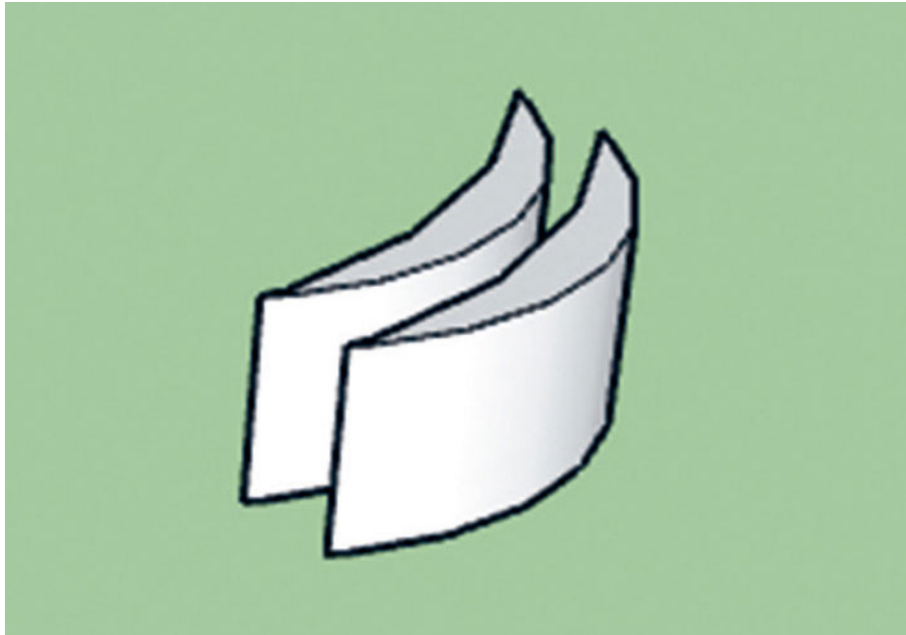

FIG. 5: *Copy the crescent shape and align to form the two walls of the holder.*
5. Make a copy of the wall by using the **Copy-Paste** tool in the **Edit** menu. Place the copy 2 mm away from the original. See fig. 5 for how to align the two walls.